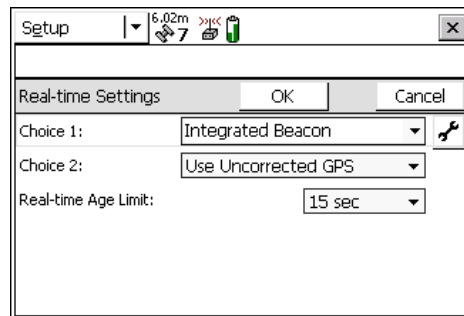

Figure D-7. Real-time Settings
- 9 Tap **Real-time Settings** to display the *Setup Real-time Settings* window (Figure D-7).